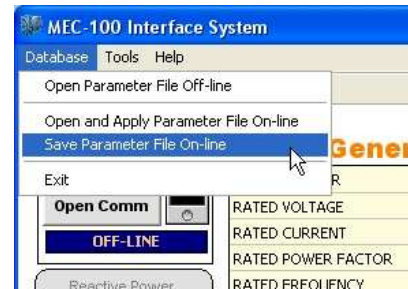

Fig. 5.6.1.a
- ❖ Click the *Database* button in the menu bar of the MEC-100 Interface System (see Fig. 5.6.1.a).